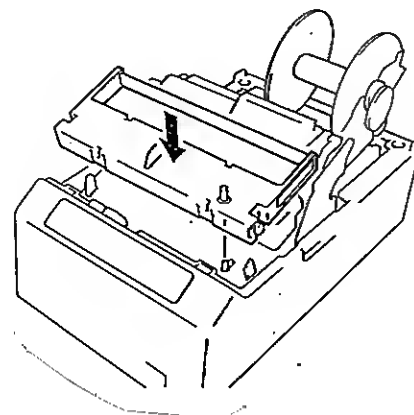

Fig. 1
- 2) Push down the ribbon cassette as it clicks. (Fig. 1)